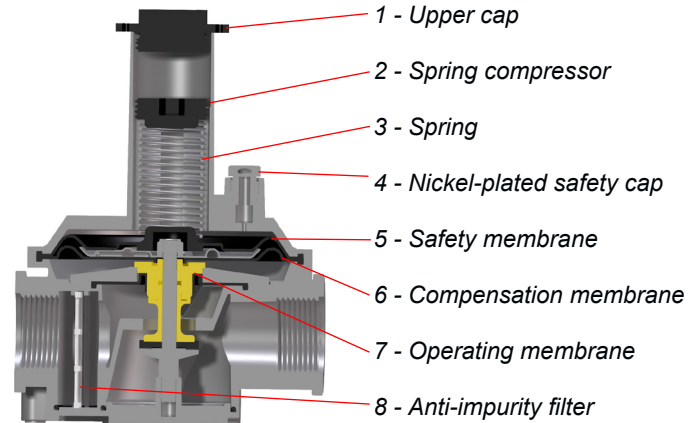

Fig. 1
GAS GOVERNOR can be installed in systems with automatic gas burners and in industrial gas distribution systems. GAS GOVERNOR have three membranes fitted inside them: an operating membrane (6), a compensation membrane (7) and a safety membrane (5) (refer to Fig. 1). A breather pipe and external discharge outlet is not necessary because the safety membrane avoids a gas leak into the environment more than 30 dm³/h, point 3.3.2 of the UNI-EN88-1 Norms.
Unscrew the upper cap to gain access to the spring compressor (1) (Fig. 1).
The outlet pressure is regulated by rotating the spring compressor (2) (Fig. 1). Using a 10mm Allen key, turn the spring compressor (2) in a clockwise direction to increase the pressure and in an anticlockwise direction to reduce the pressure. After making the adjustment, replace the upper cap (1).